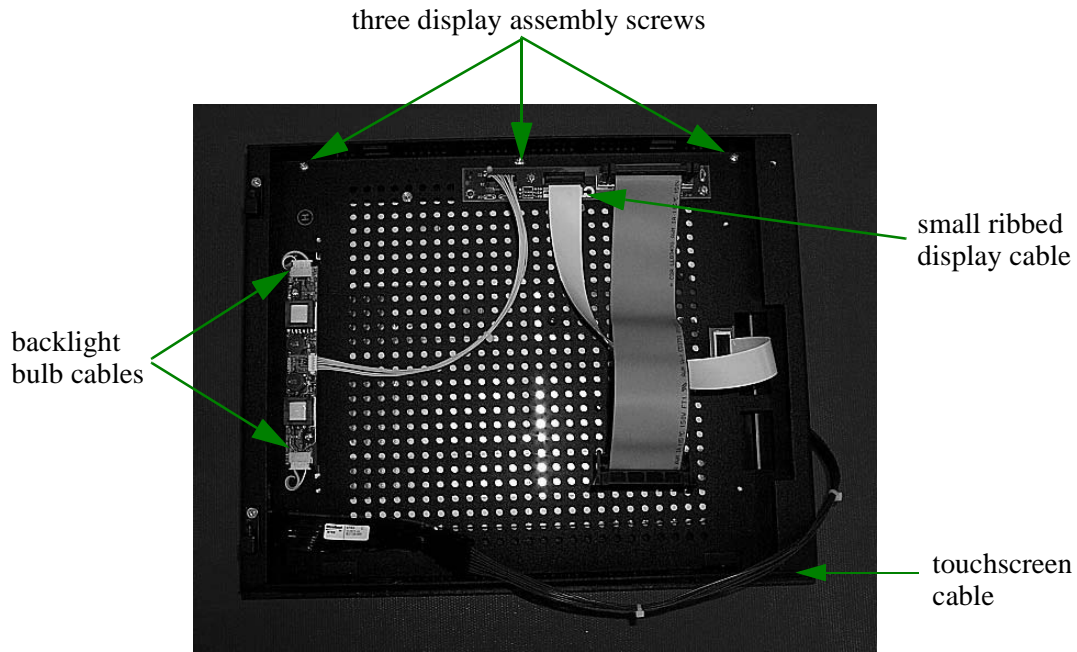
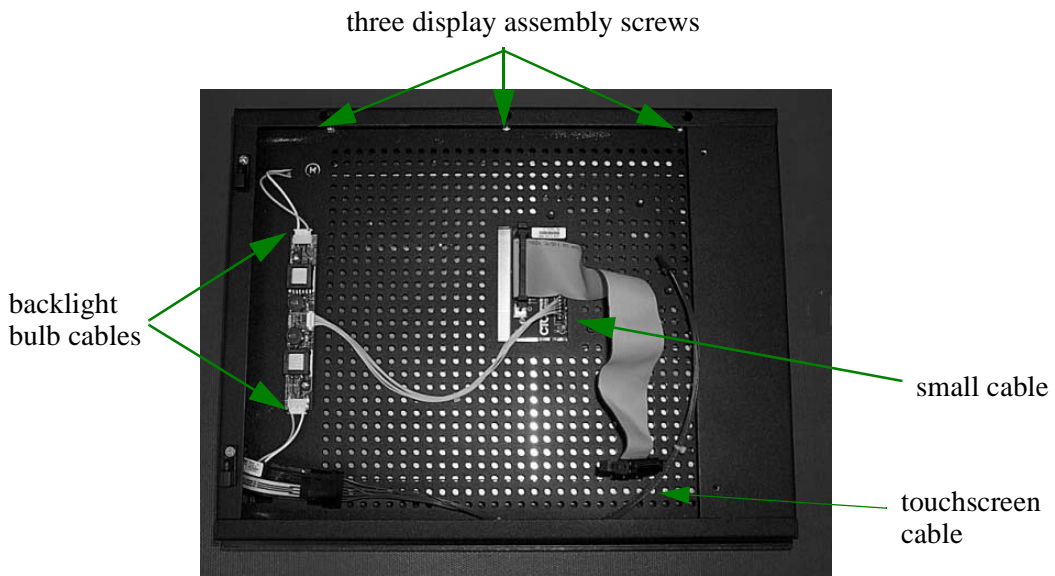

Figure 3: Philips (12" Unit) Display Assembly Cable Locations
Figure 4: Sharp (15" Unit) Display Assembly Cable Locations
11. Remove the three screws securing the display assembly to the bezel. Refer to figure 3 for a Philips (12" unit) display or figure 4 for a Sharp (15" unit) display.
14. Disconnect the backlight bulb cables from the inverter board by gently pulling on the connector. Refer to figure 3 for a Philips (12" unit) display or figure 4 for a Sharp (15" unit) display.
15. *Philips display (12" unit) only:* Disconnect the small ribbed display cable from the display adapter board. Refer to figure 3.
16. *Sharp display (15" unit) only:* Disconnect the small cable from the display adapter board. Refer to figure 4.
9. *Philips display (12" unit) only:* Connect the small ribbed display cable onto the display adapter board. Refer to figure 3.
10. Plug the backlight bulb cables onto the inverter board being careful to orient the cables so they fit on the board connectors. Refer to figure 3 for a Philips (12" unit) display or figure 4 for a Sharp (15" unit) display.
14. Secure the display assembly to the bezel using the three screws removed in step 11 of the *Opening the PowerStation* section. Refer to figure 3 for a Philips (12" unit) display or figure 4 for a Sharp (15" unit) display.